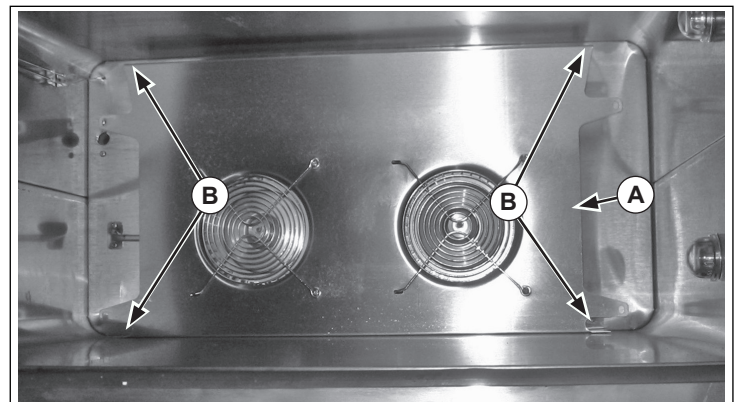

Figure 4. Fan Cover and Hardware
9. Remove the hardware (B) and fan cover (A). See Figure 4.
26. Install and secure the fan cover (A). See Figure 4.